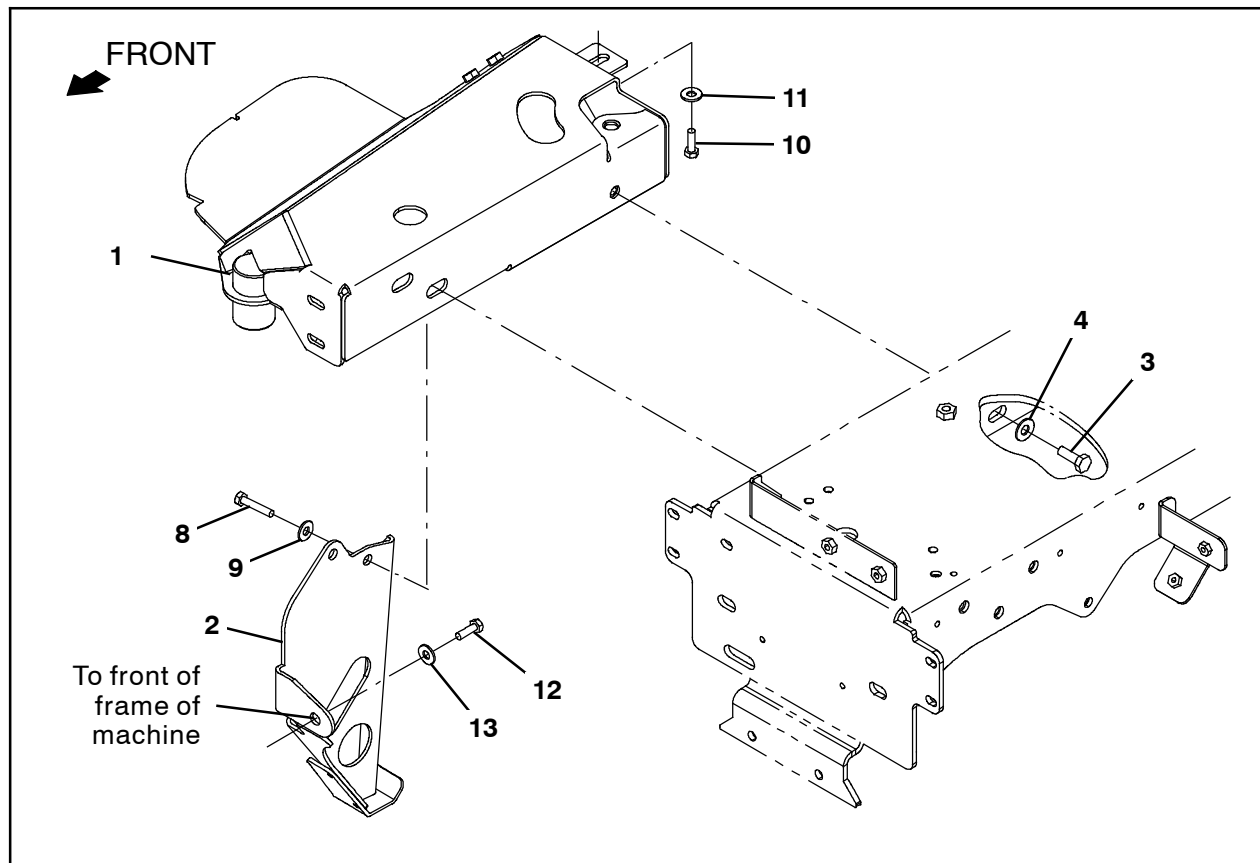

FIG. 2
2. Use one M10 hex screw (3), and one flat washer (4) to install the side brush assembly mount bracket (1) onto the frame of the machine. (Fig. 2)
3. Use two M10 hex screws (8) and two flat washers (9) to install the anti-roll bracket (2) onto the side brush assembly mount bracket (1) and secure the side brush assembly mount bracket (1) to the frame of the machine. (Fig. 2)
4. Use one M12 hex screw (12) and one flat washer (13) to secure the anti-roll bracket (2) to the front of the frame of the machine. (Fig. 2)